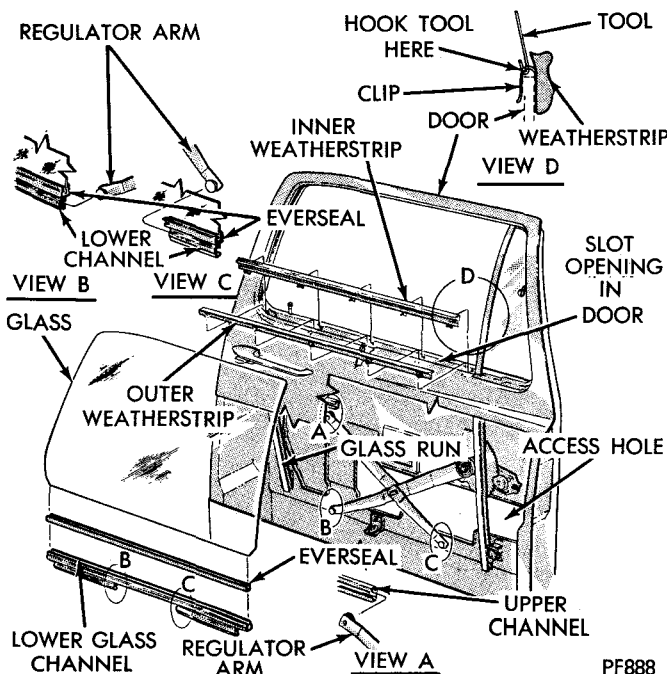

Fig. 30—Glass and Weatherstrip—Front Door
(3) Free the clip on the inner section of the weatherstrip with a wire hook or suitable tool as shown in (Fig. 30).
(4) Pull back upper glass run 8 to 10 inches.
(5) Remove upper and lower vent wing attaching screws.
(6) Remove vent wing, taking care to avoid paint damage from glass lower pivot adjusting screws.
To assemble window glass to door (Fig. 30) insert glass to everseal. Place channel assembly onto everseal. Press seal onto channel securely and lubricate channel. Lower regulator to down position. Place glass and channel assembly into slot opening in door and lower it to the bottom of door. Reach through the access hole in door and install regulator to lower channel on glass, and to upper channel. Install vent wing. Test glass for proper movement. Adjust vent up to eliminate fore and aft freeplay. Then install the weatherstrip assembly front and rear to door as shown in (Fig. 30).